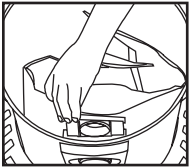

FIGURE 26
35. Slide the inlet deflector with the filter bag attached into the deflector guide. **FIGURE 26.**